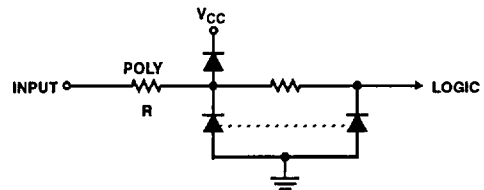
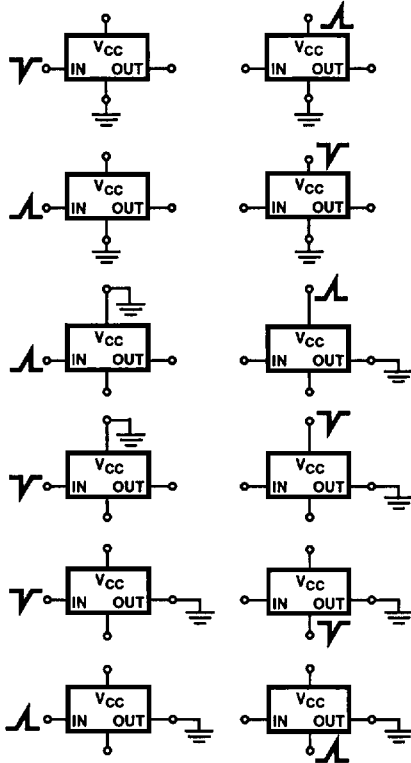
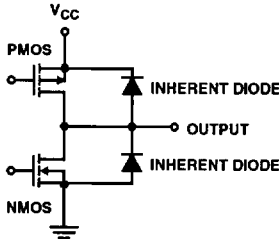

FIGURE 9. RESISTOR DIODE PROTECTION NETWORK USED ON INPUTS OF HC/HCT DEVICES TO PROTECT DEVICE GATE OXIDE FROM ELECTROSTATIC DISCHARGE DAMAGE (ESD)
FIGURE 10. HC/HCT ESD TEST MODES
FIGURE 21. INHERENT DIODES PROTECTING HC/HCT OUTPUTS
The very low HC/HCT input current and hence, high input resistance is primarily due to low-level leakage currents of the input ESD protection diodes shown in Figure 9. This excellent input buffering characteristic of CMOS logic ICs is fundamental to the wide range of very low power applications from pure logic to wide range RC oscillators, high Q crystal oscillators, etc. However, in no situation should this high input resistance be left floating or unterminated. Inputs may be tied directly to  $V_{CC}$  or GND via resistors of up to  $1M\Omega$ ; the upper limit is only related to AC noise immunity, i.e., pick up.
One additional note on HC/HCT input terminations. There are several bidirectional (transceiver) logic types in the QMOS family with common I/O pins. These I/O pins do not have the input poly resistor (R) of Figure 9. Hence, these pins cannot be terminated directly to  $V_{CC}$  or GND. A terminating resistor to  $V_{CC}$  or GND of  $10k\Omega$  is recommended.
HC/HCT device inputs have a resistor-diode protection network, shown in Figure 9, that protects the gate oxide from electrostatic discharge (ESD) damage. The network provides protection to levels typically greater than 2kV in all modes pertaining to the input, as shown in Figure 10. The
As a general rule, CMOS logic devices employing input clamp diodes (Figure 9) to minimize ESD effects should be operated between the power supply rails. If the input series polysilicon resistor shown in Figure 9 is not considered, then the rule is:  $-0.5V \leq V_{IN} \leq (V_{CC} + 0.5V)$ .
The outputs in a QMOS device are protected from ESD damage by diodes. Figure 21 shows these diodes. These intrinsic diodes are effective because of the large geometries (widths) of the output transistors. These diodes are the drain to n-substrate junction of the p device and the drain to p-well junction of the n device. This network provides protection to voltage levels typically greater than 3kV in all ESD discharge modes pertaining to the output (see Figure 10).